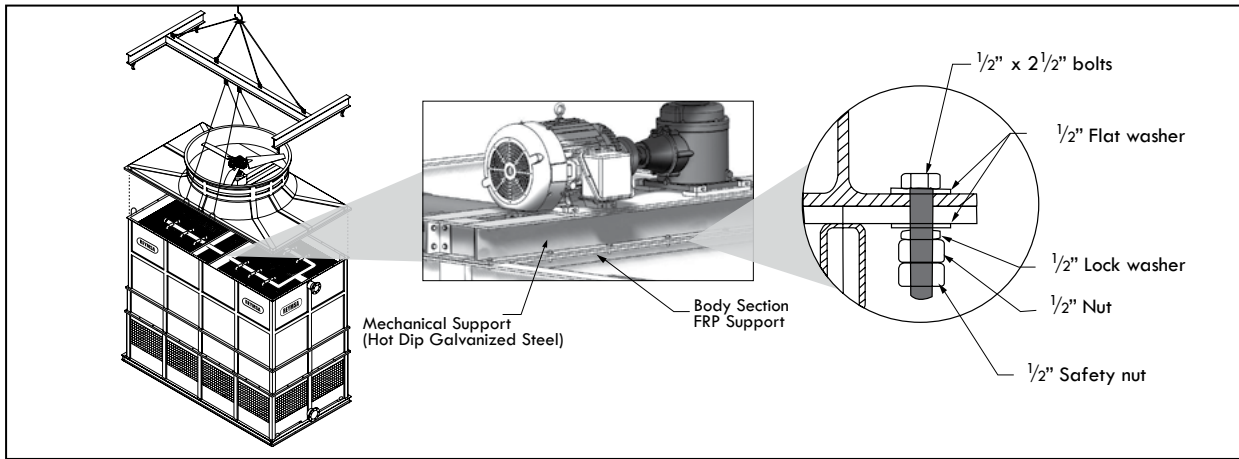

Figure A-51: Fan Deck assembly for an RTG and RTGTC model.
- N. RTG and RTGTC models have a section called “Fan Deck” which is at the top of the Tower. The Fan Deck with duct contains a gear drive, a fan and a motor mounted on a structural Hot Dip Galvanized Steel support with an “I” shape configuration, and a corrosion resistant safety screen mesh. (See Figure A-51).
- S. After installing the fan deck section, access to inside of the fan deck section and bolt down the Galvanized Steel mechanical support to the Fiberglass (FRP) support (see Figure A-51). The Galvanized Steel mechanical support is built in an “I” shaped configuration and this mechanical support must be bolted to the Fiberglass (FRP) support in the upper section on which it sets. The bolts must be installed on the full perimeter of the “I” shaped mechanical support. Access to perform this assembly inside the tower through the fan guard access door.